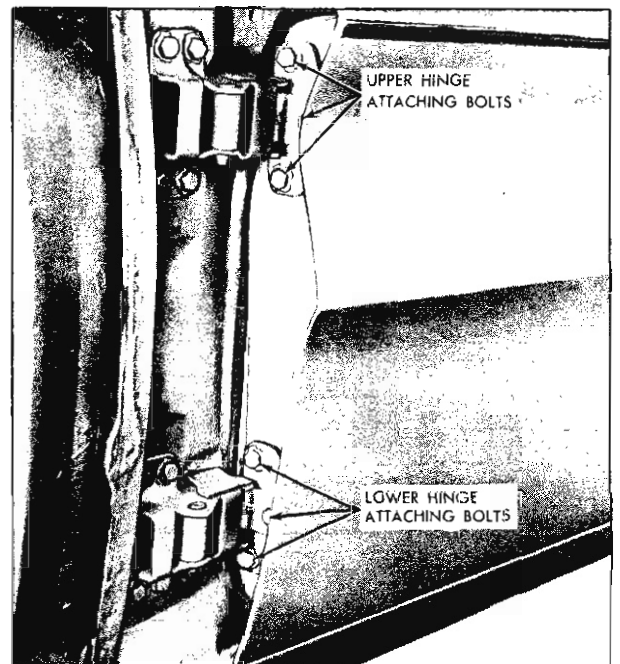

Fig. 12-18 Front Door to Hinge Attachment
5. With the aid of a helper, to properly support door, remove bolts securing upper and lower hinges to door and remove door assembly from body (See Fig. 12-18).
2. Loosen hinge attaching bolts. Shift door to desired position, then tighten hinge attaching bolts (Fig. 12-18).